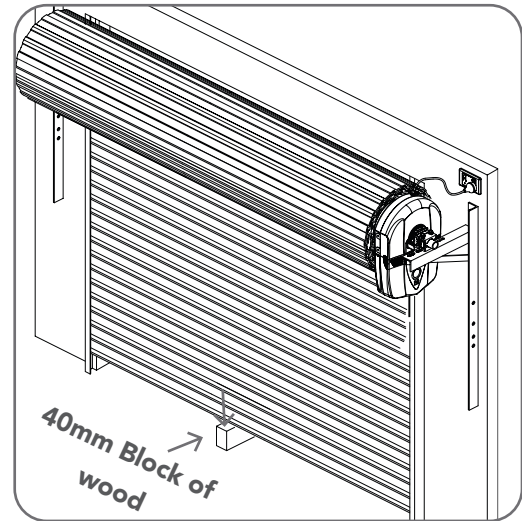

Fig 12.1
- Place a piece of timber approximately 40mm high on the floor directly under the door (**Fig. 12.1**).